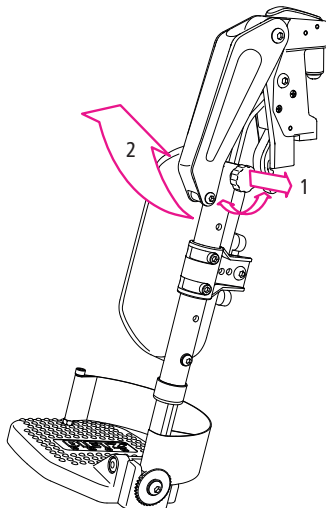

Fig. 40
1. To do this, loosen the locking screws until the screw head can be pulled out easily (1, Fig. 40) and release the lock